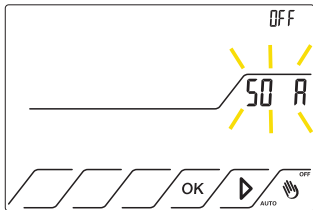

Fig.42
11.2.2 Press  up to position on **50 A** that it will flash. The status is OFF. Fig.42